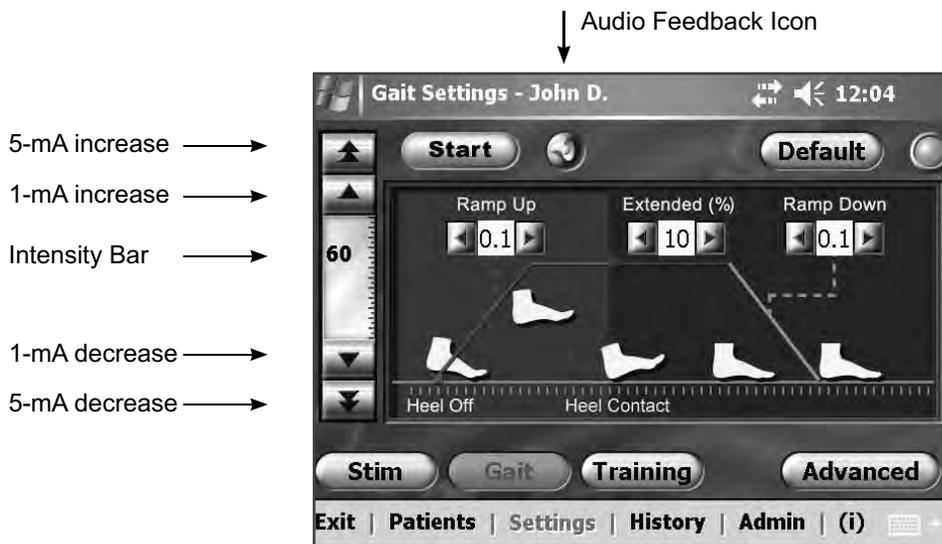

Figure 9-10: Gait Settings window.
1. Press **Gait** to open the Gait Settings window. See Figure 9-10.